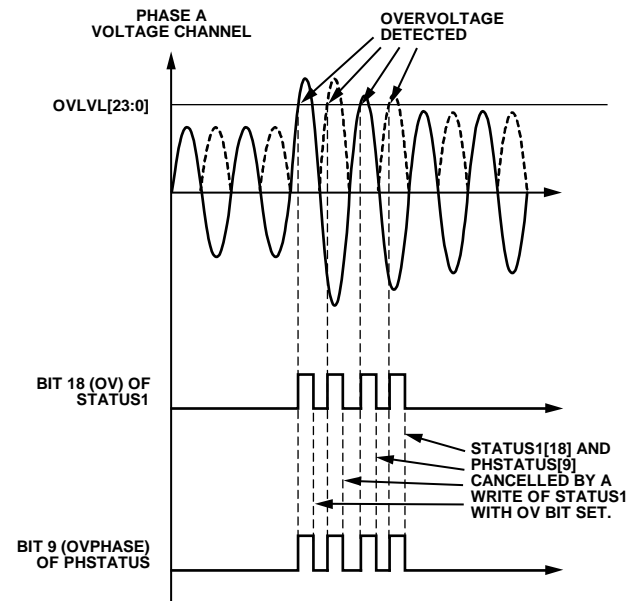

Figure 64. Overvoltage Detection
Figure 64 shows overvoltage detection in the Phase A voltage. When the absolute instantaneous value of the voltage goes above the threshold set in the OVLVL register, Bit 18 (OV) in the STATUS1 register and Bit 9 (OVPHASE[0]) in the PHSTATUS register are set to 1. Bit 18 (OV) of the STATUS1 register and Bit 9 (OVPHASE[0]) in the PHSTATUS register are cleared when a 1 is written to Bit 18 (OV) in the STATUS1 register.